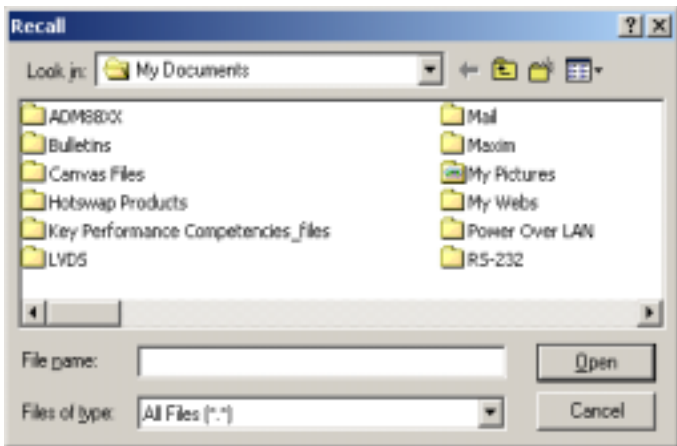
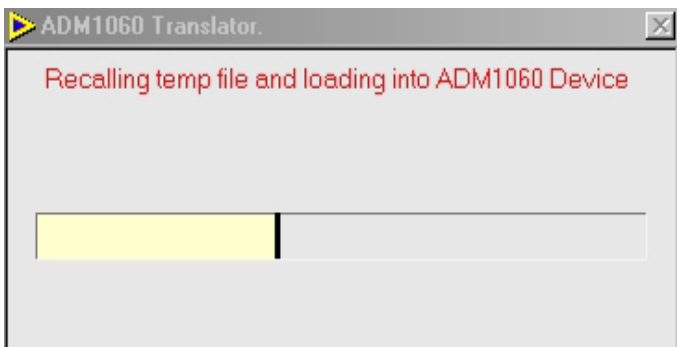

Figure 66. Recall file to translate
Figure 67. Recalling progress bar
Step 2: The Open file dialog box of figure 66 will appear. Use this window to navigate to the file that needs to be translated (Pre-version 3 file). Click *Open* when ready. The progress bar of Figure 67 will appear. The software is now automatically converting the old file to the new file format.